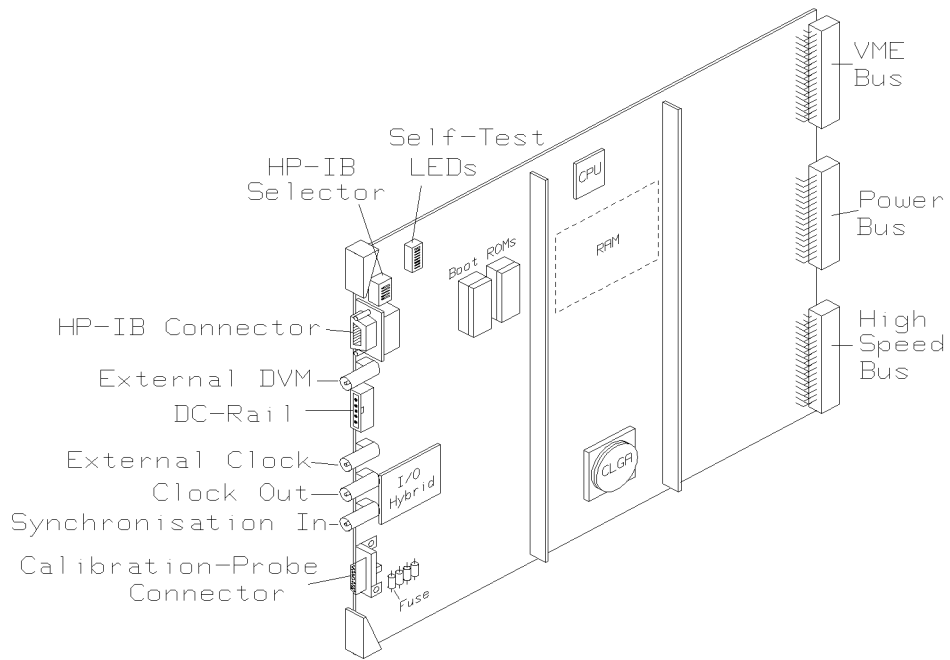

Figure 10-6. Clock board
4. The HP-IB address of each card-cage is set on its Clock Board, using the DIP-switches shown in Figure 10-6. The addresses for each Mainframe are: